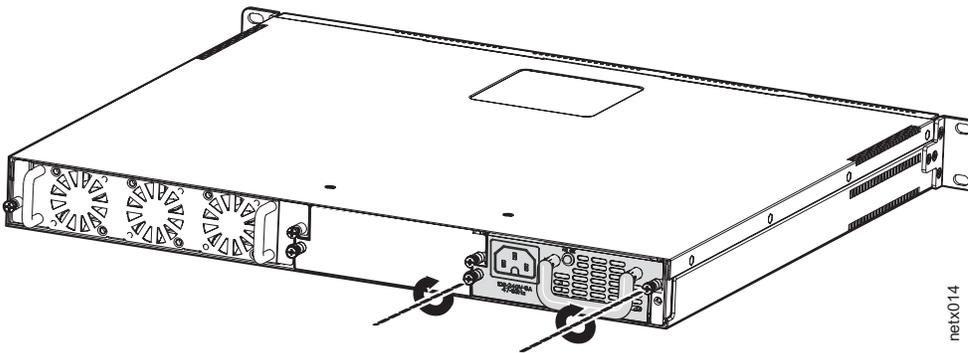

Figure 20. Securing the power supply in the device
4. Lock the power supply in place by securing the two captive screws as shown in Figure 20.